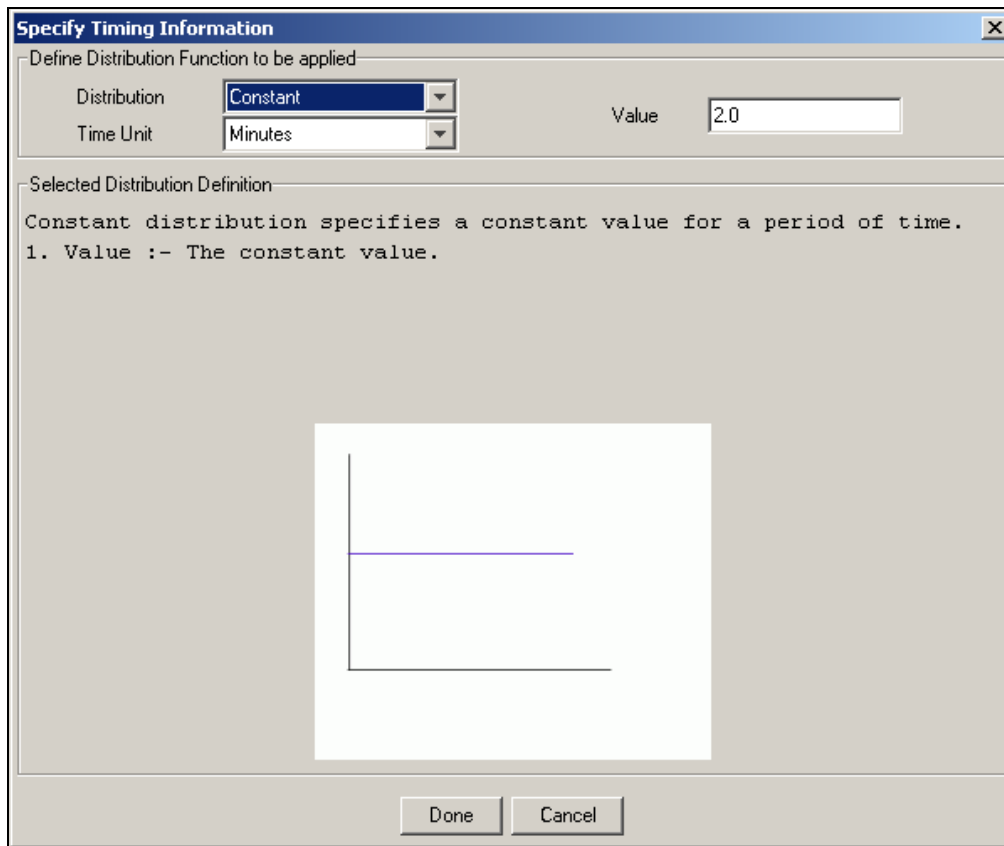

Figure 15: Define Execution Time
1. To assign the execution time, click **Assign** in *Value* column of the *Execution Time* property. The *Specify Timing Information* dialog box is displayed (see Figure 15).